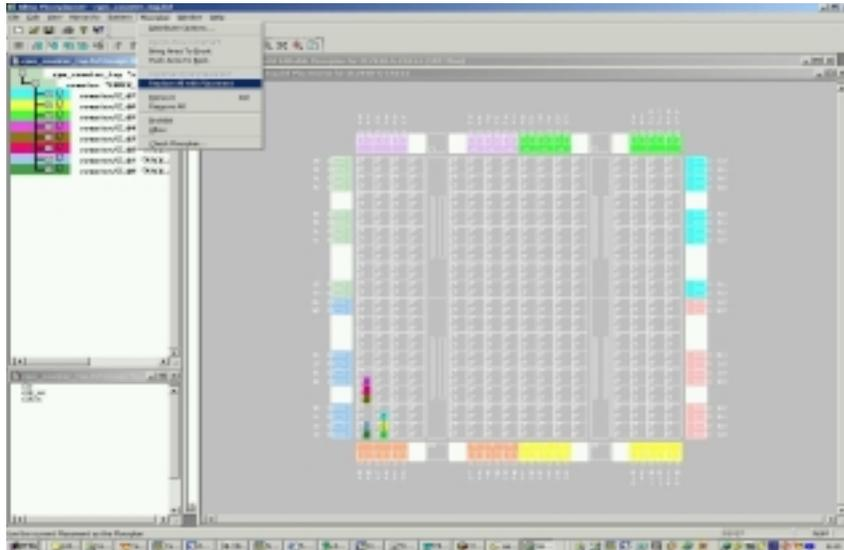

Figure 3: Implemented Logic Placement View After PAR
- Click on *Floorplan* -> *Replace All with Placement* to place logic in the editable window (Figure 3).